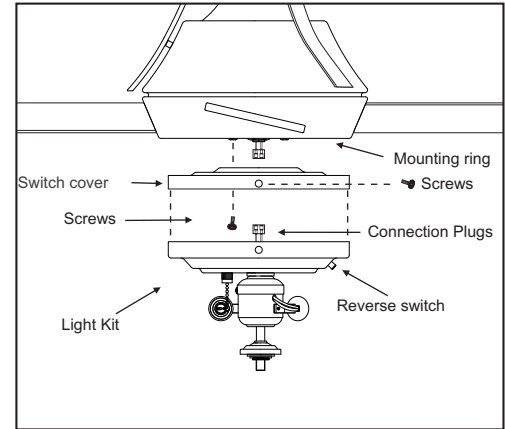

Figure 19
2. Remove the switch cover from the light kit by removing four screws from the light kit. Place the key holes on the switch cover over the 2 screws previously loosened from the mounting ring, turn switch cover until it locks in place at the narrow section of the key holes. Secure by tightening the 2 screws previously loosened and the one previously removed. (Figure 19)
4. Connect the connectors from the light kit and fan. (Figure 19)